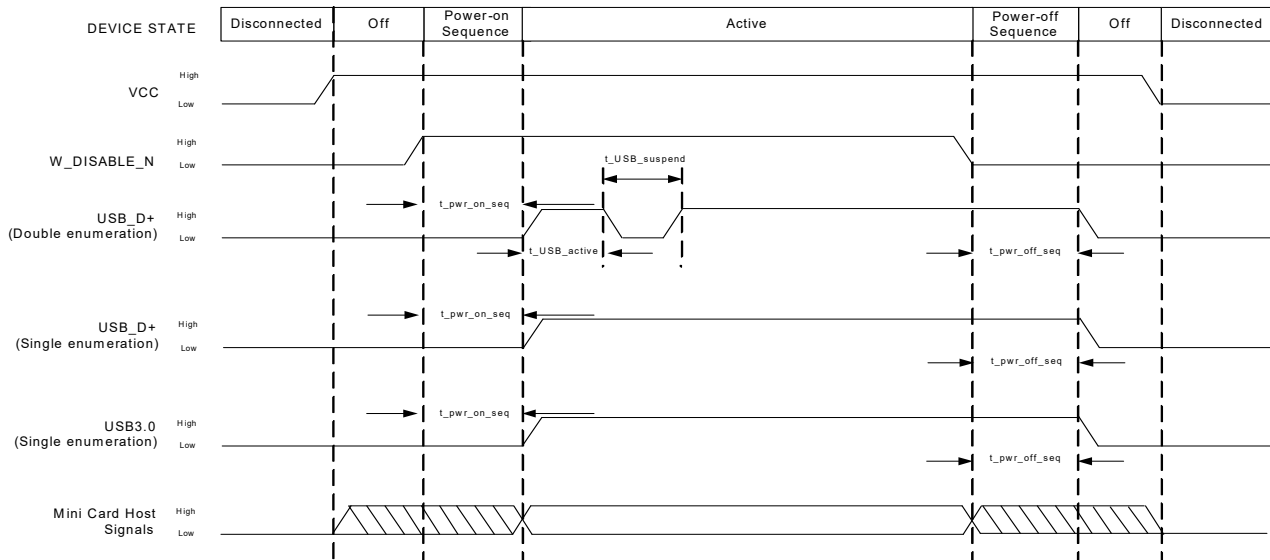

Figure 5-2: Signal Timing ($W_DISABLE_N$, and USB Enumeration)
Figure 5-2 describes the timing sequence for powering the module on and off.
- Double enumeration—As shown in Figure 5-2 on page 48: